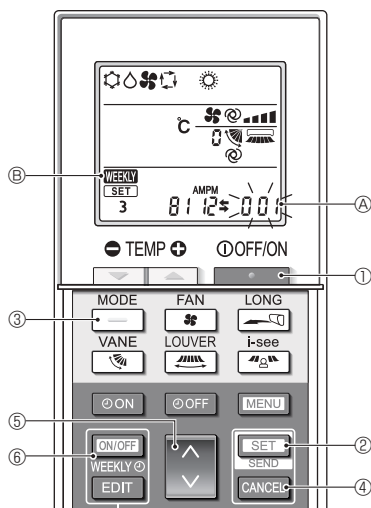

Fig. 6-7
### 6.9.8. How to disable Auto mode operation (Fig. 6-7)
- Press the **POWER** button ① to stop the air conditioner.
- If the weekly timer is enabled, press the **ON/OFF WEEKLY** button ⑥ to disable the timer. (**WEEKLY** ⑥ disappears.)
- Press the **SET** button ② for 5 seconds.
- The unit enters the function setting mode. (The group model setting number ④ blinks.)
- Press the **UP/DOWN** button ④.
- Completing the settings (Fig. 6-7)